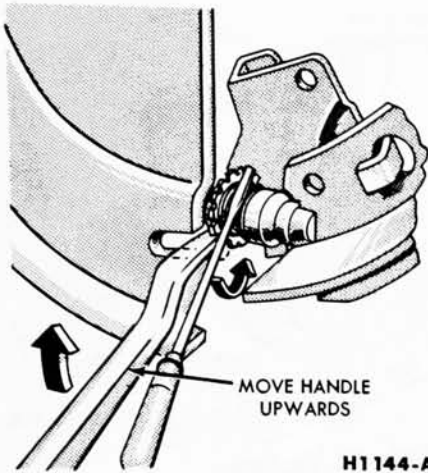

FIG. 8—Backing off Brake Adjustment
3. Pull the hub and drum assembly off the wheel spindle. If the brake drum will not come off easily, insert a narrow screwdriver through the brake adjusting hole in the carrier plate, and disengage the adjusting lever from the adjusting screw. While holding the adjusting lever away from the screw, back off the adjusting screw with the brake adjusting tool (Fig. 8). **Back off the adjustment only if the drum cannot be removed. Be very careful not to burr, chip, or damage the notches in the adjusting screw; otherwise the self-adjusting mechanism will not function properly.**
2. Remove the hub cap and wheel. Remove the three Tinnerman nuts and remove the brake drum. If the brake drum will not come off easily, insert a narrow screwdriver through the brake adjusting hole in the carrier plate, and disengage the adjusting lever from the adjusting screw. While holding the adjusting lever away from the adjusting screw, back off the adjusting screw with the brake adjusting tool (Fig. 8). **Back off the adjustment only if the drum cannot be removed. Be very careful not to burr, chip, or damage the notches in the adjusting screw; otherwise, the self-adjusting mechanism will not function properly.** If the adjustment was changed, make certain that the adjuster lever is seated in the shoe web.